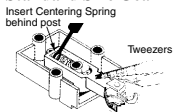

FIG. 4
3. Place coupler and Draft Gear Box together. While holding (optional Kadee[®] #1020 Tweezers), install Centering Spring into spring slot (behind post except the #806 Coupler the Centering Spring is placed in front of post) using a Kadee[®] #241 Spring Pic or small screwdriver wedged between the last two coils of the spring. (see Fig. 4 & 4B)